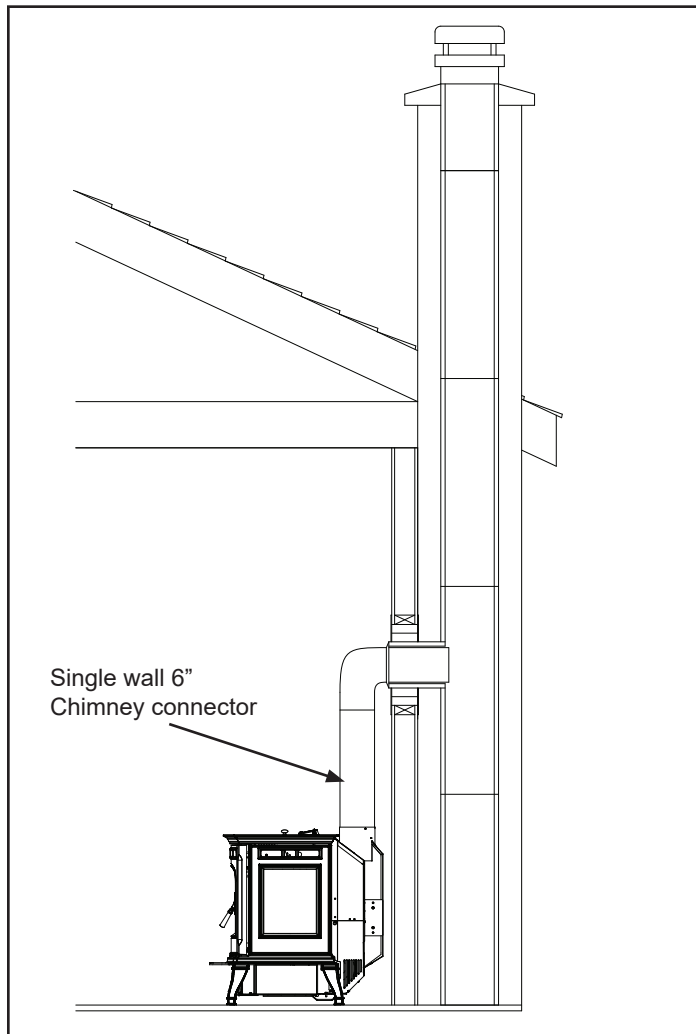

Figure 4.10
**#8 Installing into an existing chimney using the Optional Top Vent option. (Figure 4.10)**